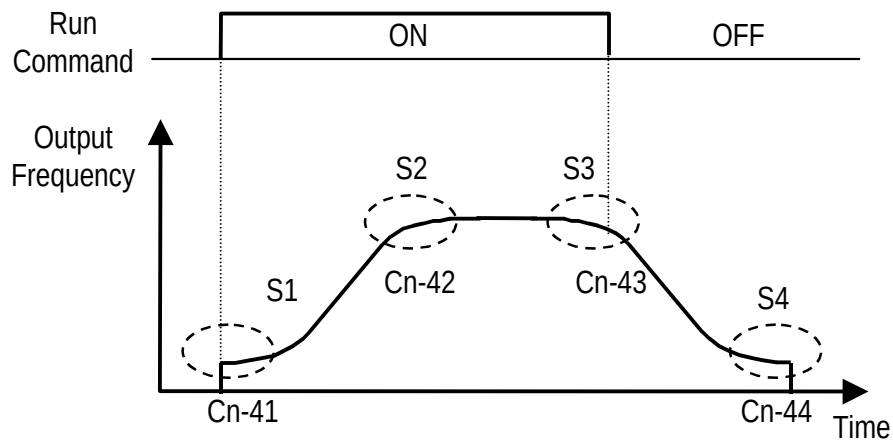

Figure 28 S Curve
- Using the S-Curve Characteristic Function for acceleration and deceleration can reduce shock to the machinery when stopping and starting. With the C10, the S-Curve Characteristic Time can be set respectively for: beginning acceleration, ending acceleration, beginning deceleration and ending deceleration. The relationship between these parameters is shown in Figure 28.